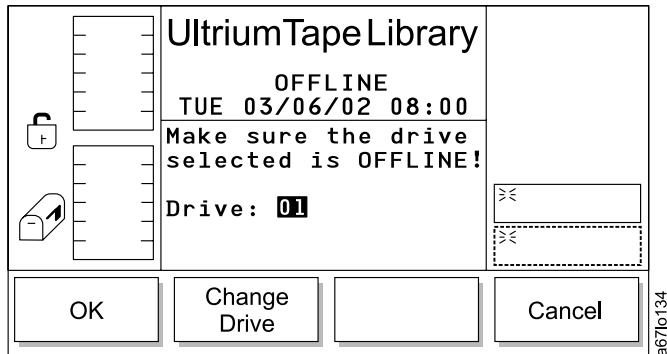

Figure 40. Select Drive Dialog
- b. Select **Service**, then **Drives**. The Select Drive Dialog displays (see Figure 40).